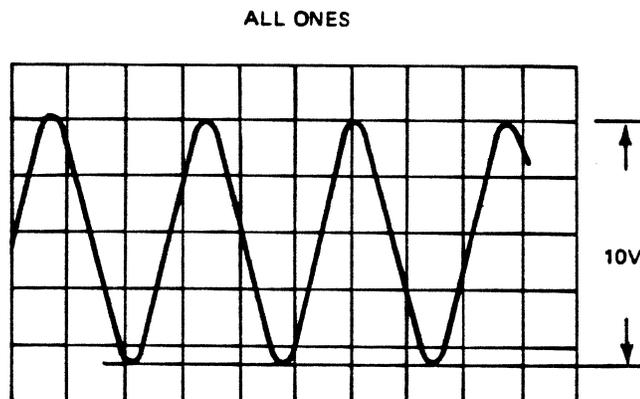

Figure 5-4. Amplifier Waveforms (TP101)
- g. Read with MAINTENANCE switch in Forward and adjust the amplifier gains. Refer to table 5-5 and figure 5-4 for NRZI/PE TEST POINTS and OUTPUT SIGNALS.